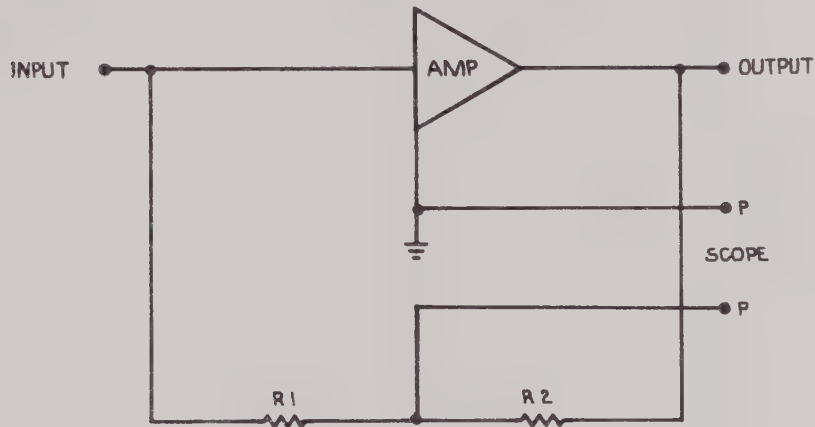

FIGURE 6.3.2
- (b) Inverting: A gain of 1 buffer with an inverting output is calibrated by connecting the input and output per Figure 6.3.2.